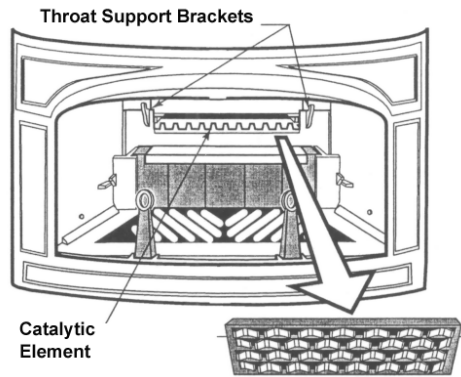

Fig.1 Remove Throat Baffle
1. Remove the throat Baffle from the fireback lifting it up and off the retaining tabs in the upper fireback (**Fig. 1**).